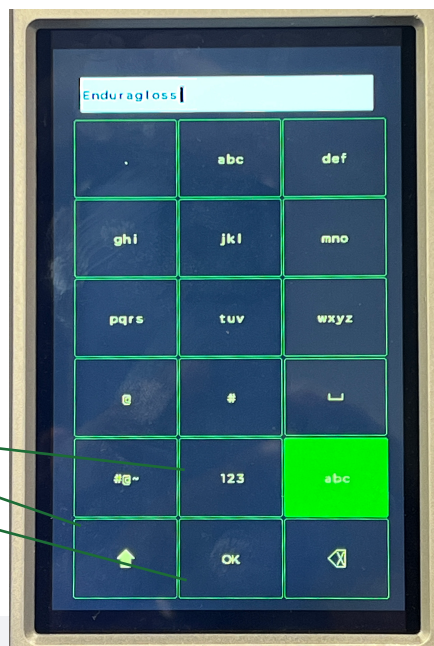

Fig. 2.3.2
3. Press one of the custom preset boxes, as shown in FIG.2.3.2. The number will illuminate. Click **SAVE** and that preset will be updated with the new settings. Press **RENAME** (as directed above) to update the name of the updated preset. Enter the name of the new preset you would like to save and press OK (Note: there is a 15-character limit).